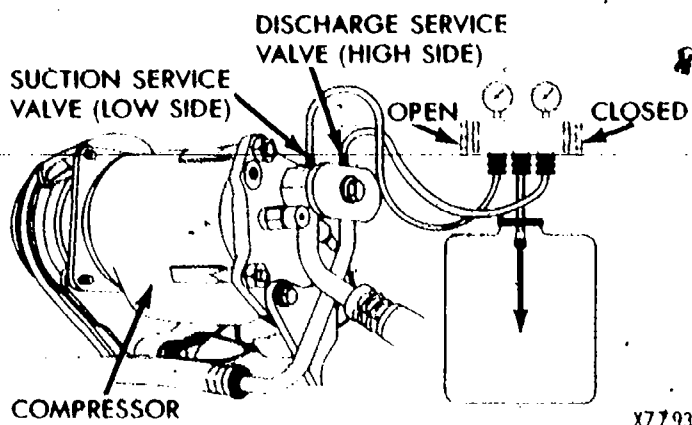

Fig 56 — Discharge R-12 From Center Hose
2. Open low side manifold gauge valve to discharge Refrigerant-12 at a slow rate from the center hose of the manifold (Fig. 56).